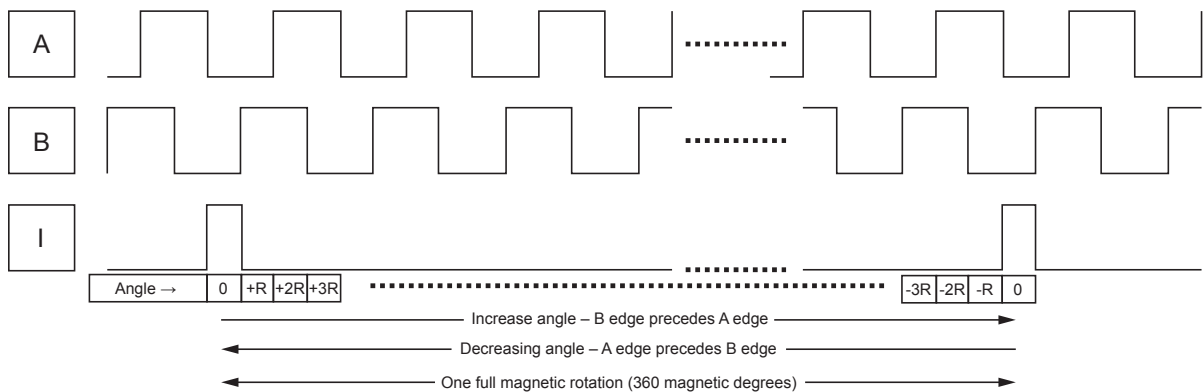

Figure 5: One Full Revolution
The AAS33001 offers an incremental output mode in the form of quadrature A/B and Index outputs to emulate an optical or mechanical encoder. The A and B signals toggle with a 50% duty cycle (relative to angular distance, not necessarily time) at a frequency of 2N cycles per magnetic revolution, giving a cycle resolution of (360 / 2^N) degrees per cycle. B is offset from A by ¼ of the cycle period. The “I” signal is an index pulse that occurs once per revolution to mark the zero (0) angle position. One revolution is shown in Figure 5.